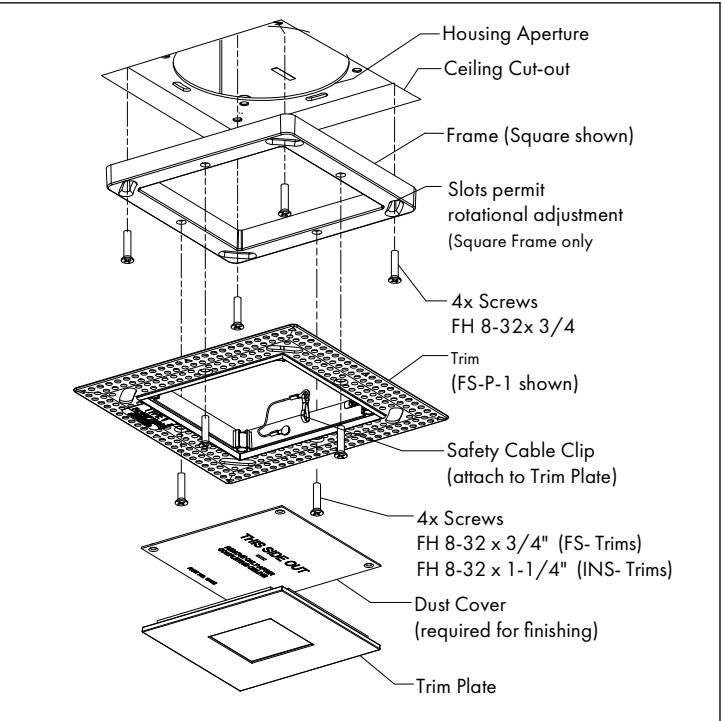

FIG 3.2 Frame & Trim Installation (for Single & Multi-Lamp)
STEP 3 Install USG "Imperial" or equivalent ceiling board (drywall/sheetrock) with cutouts positioned under housing apertures. Finish with one coat of USG sheetrock or equivalent wall covering primer. **Note:** Black frame (round or square) can be installed before or after ceiling board installation - **FIG 3.2**.
STEP 5 Install Dust Cover - **FIG 3.2 & 3.4**.